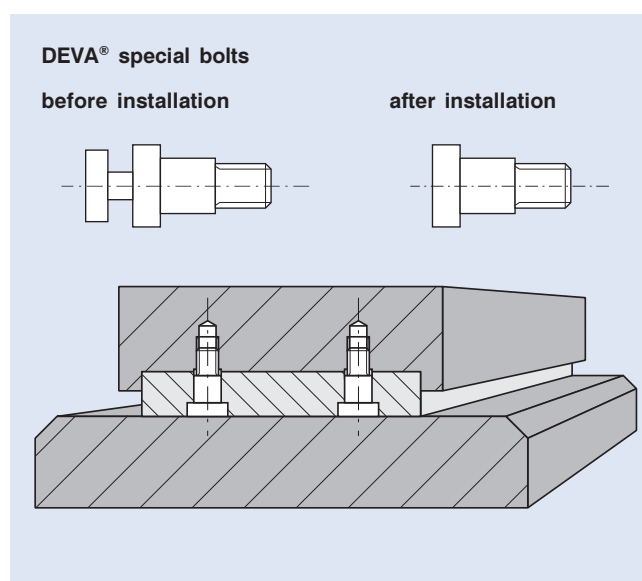

Fig 7.3.1 – Installation of a deva.metal® sliding plate with DEVA® special bolts
deva.metal® thrust washers should be located on the outside diameter in a recess as shown in Fig. 7.3.1. If there is no recess for the thrust washer one of the following methods of fixing may be used:
- With **DEVA®** special bolts in accordance with **DEVA®** works standard DN 0.34 (Abb. 7.3.1)
- Through mechanical fixing, e.g. form fit (Fig. 7.3.1)